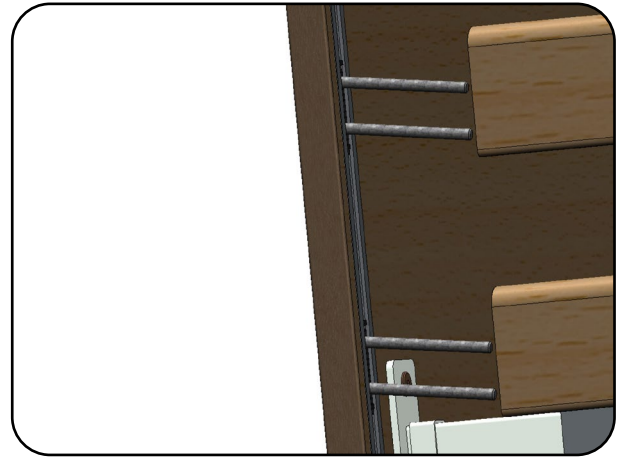

Fig. 6.1.08 – Guide pins for side bar sliders
16. Slide the side bar slats onto the guide pins for the side bar sliders and place the side bar slats onto the bed surface (Fig. 6.1.08).